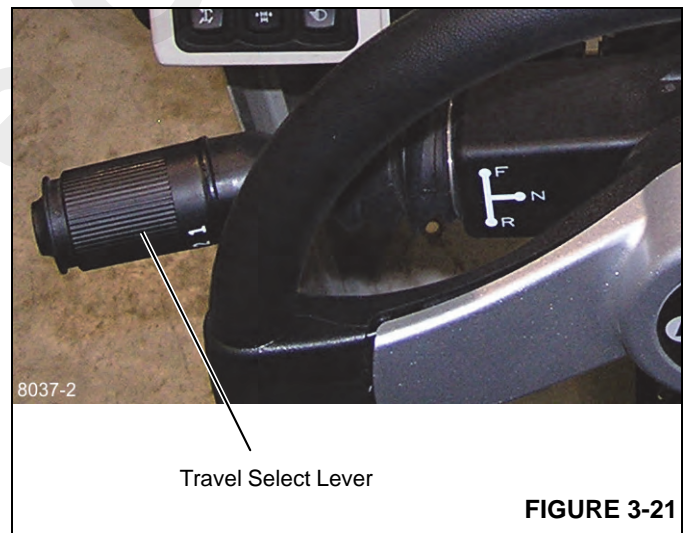

FIGURE 3-21
4. Place the travel select lever (Figure 3-21) in the neutral (N) position.